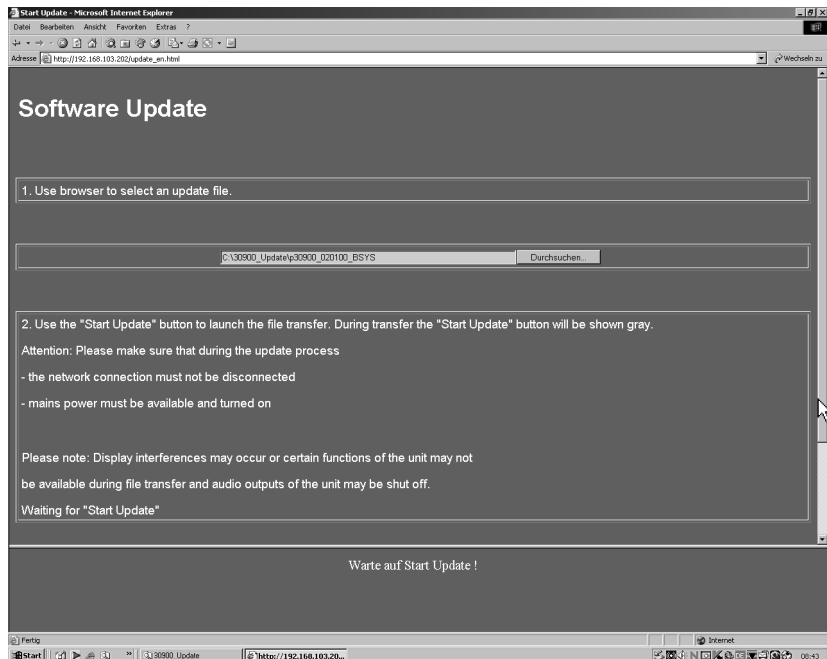

Fig. 5-13: Selection of the update file and moving the menu page with the scrollbar
- After selecting the update file move the menu page upward by moving downward the grey scrollbar on the right (see mouse pointer in Fig. 5-13).